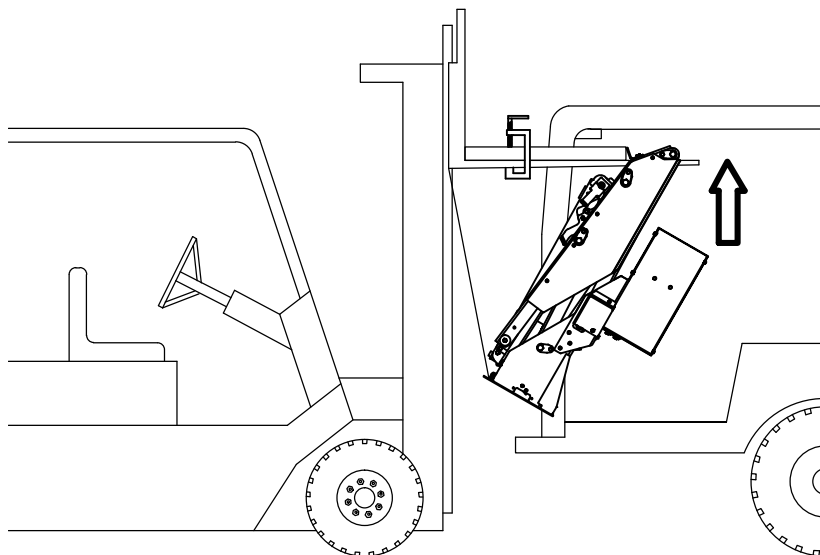

Figure 14: Raise the liftgate until the base of the liftgate will clear the shims on the van floor.
6. **Raise** the liftgate until the base of the liftgate will clear the floor and shims (Figure 14).